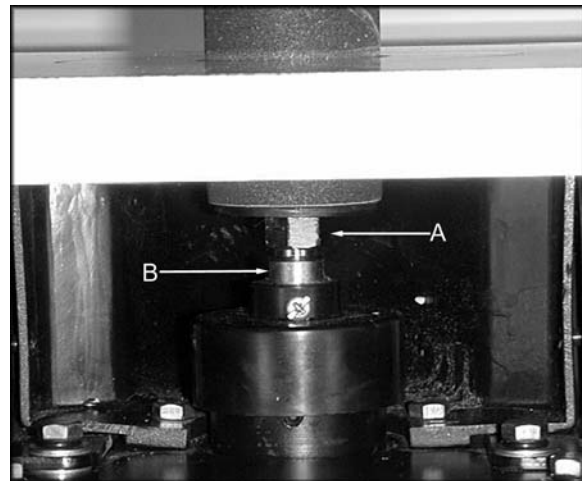

Figure 3
3. Using the provided wrenches, tighten the spindle nut (A, Figure 3) counterclockwise while holding the spindle housing flat (B, Figure 3) with the other wrench.